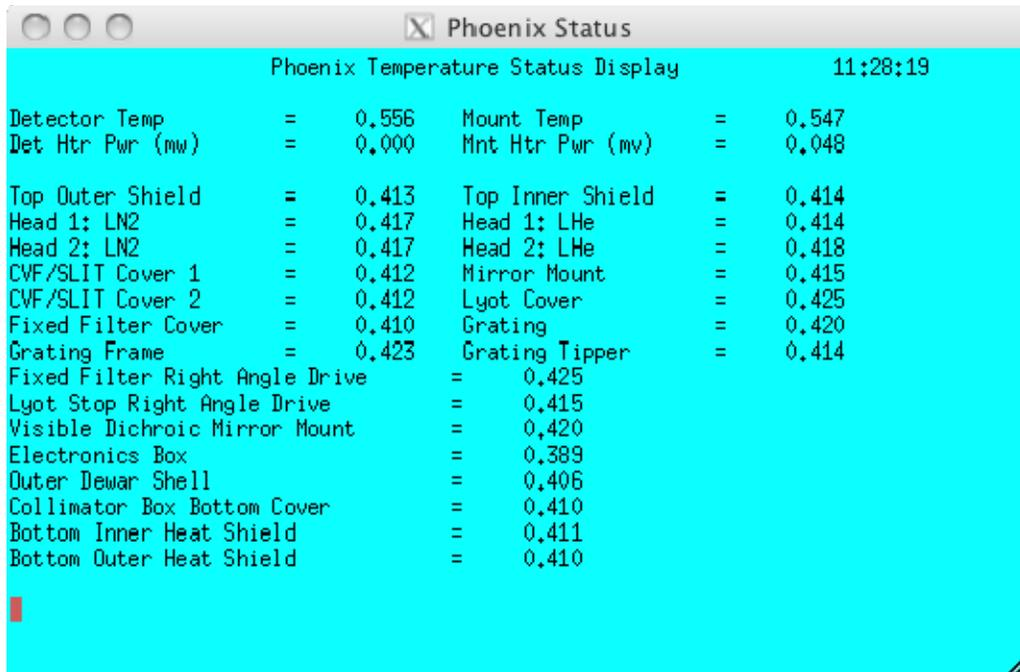

Figure 3: Phoenix Status window after entering 'status t'. The instrument is warm at this point, and all of the 1N914 diodes will read approximately 0.400 v.
f. Enter the command 'status t' in the Phoenix window. The display in the Instrument Status window should update to a list of temperatures (actually diode voltages) at various sites within the instrument (Figure 3). See the temperature graph at the end of this manual (Figure 4) for a conversion.